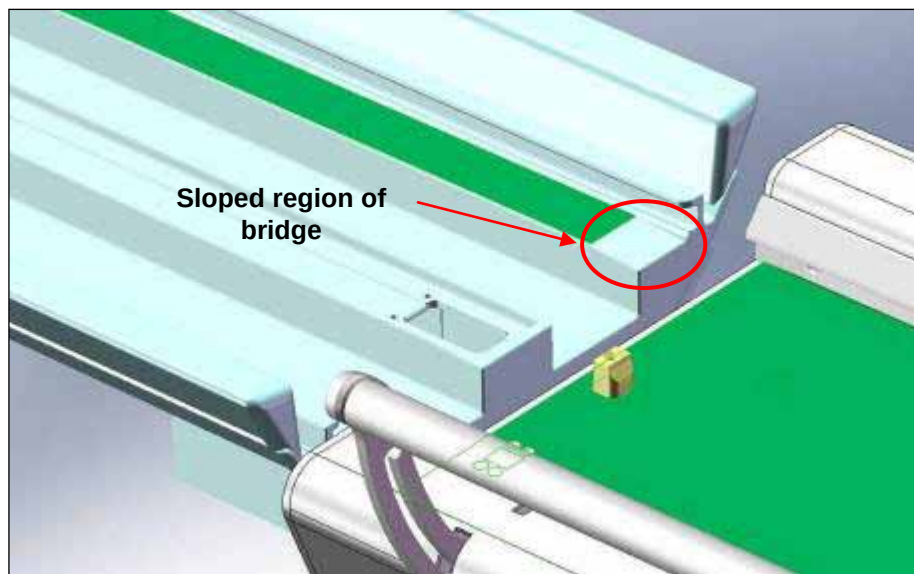

Figure 20
stretcher LBS and the scanner bridge (Figure 20) with an MRI compatible ruler and straightedge or other available means. Do not use surfaces other than the ones specified.
5. Sighting along the length of the flat surface of the stretcher and the scanner's bridge (Figure 20), adjust the casters at the head or foot end to correct for any pitch or roll angle of the stretcher.